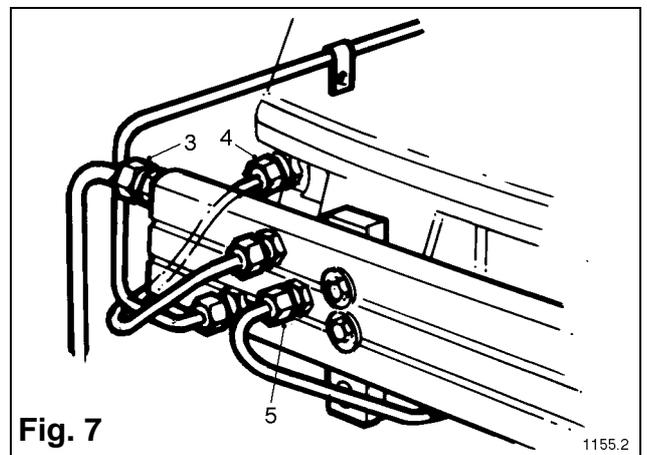

**Fig. 6**
Turn on the fuel feed from the day tank, loosen the union on the tee-piece (1) **Fig. 6** then operate the priming pump by repeatedly pressing the rubber button (2) until air free fuel flows from the union, re-tighten the union.
**Fuel flow circuit Fig. 6**